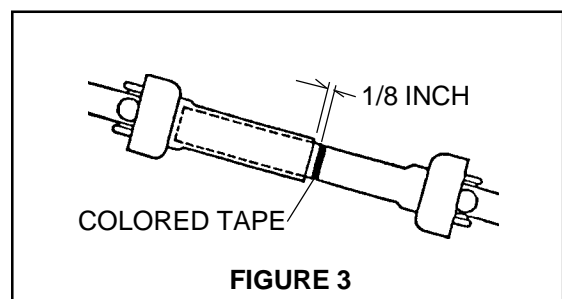

FIGURE 3
- * Apply colored tape to the Inner Shield 1/8" from the end of the Outer Shield. **FIGURE 3**